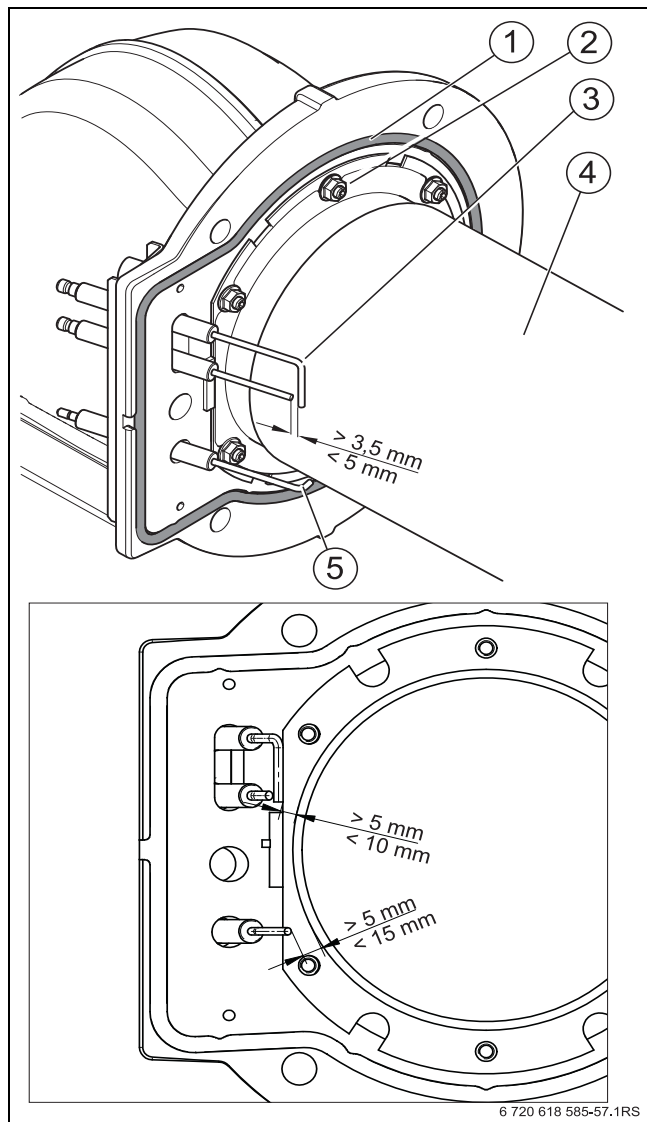

Fig. 55 Setting the electrode position
- Check the gaps between the electrodes and compare them with those shown in Fig. 55.